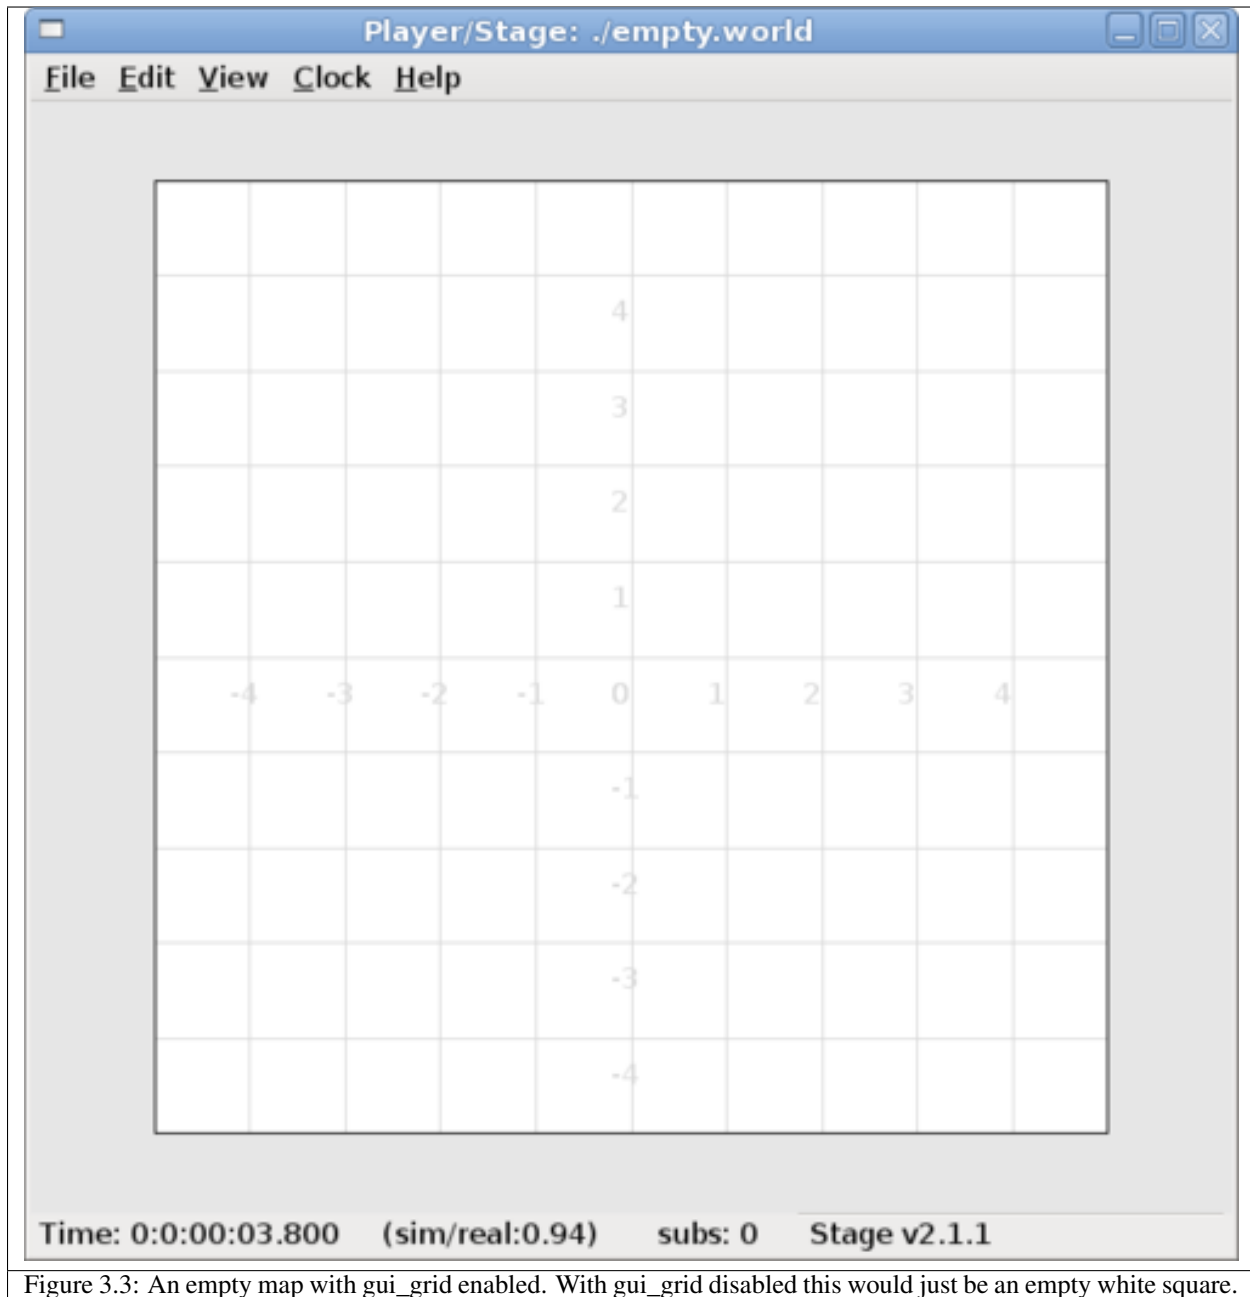

Figure 3.3: An empty map with `gui_grid` enabled. With `gui_grid` disabled this would just be an empty white square.
- `gui_grid`: this will superimpose a grid over the model. Figure 3.3 shows a map with a grid.